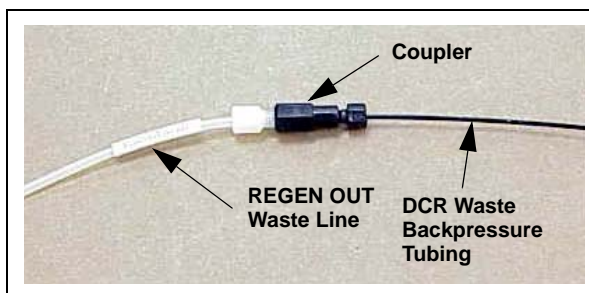

Figure 26. DCR waste backpressure tubing assembly
2. Verify that a DCR waste backpressure tubing assembly (P/N 060214) is installed on the **REGEN OUT** waste line (see Figure 26).